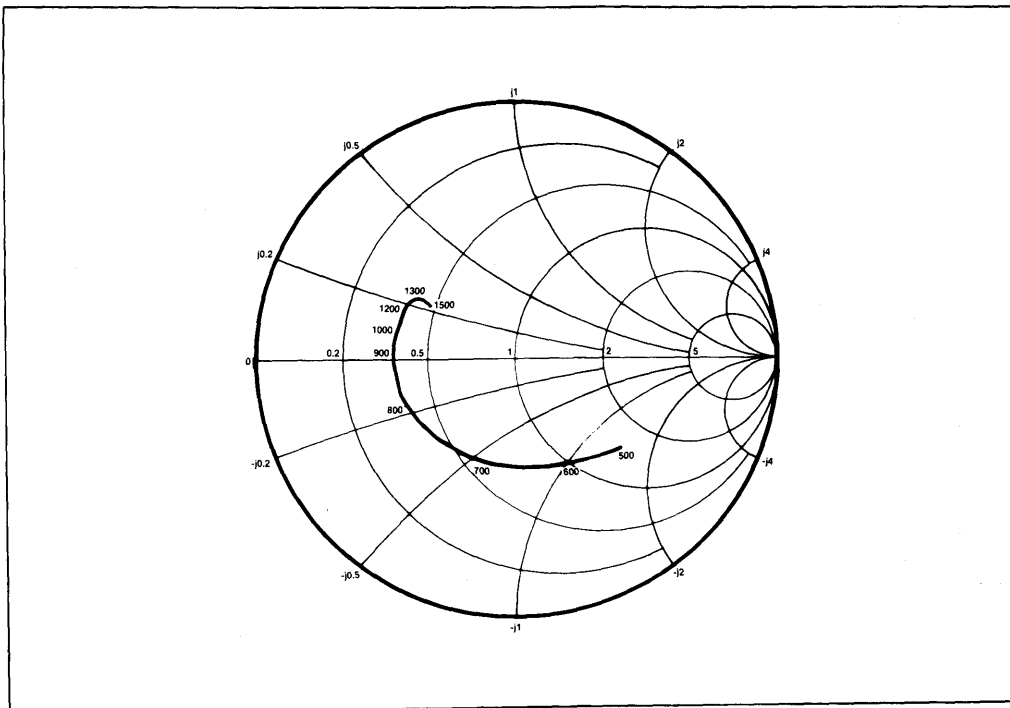

Fig.5 Typical input impedance. Test conditions: supply voltage -6.8V, ambient temperature 25° C, frequencies in MHz, impedances normalised to 50 ohms.
4. Input impedance is a function of frequency. See Fig. 5.